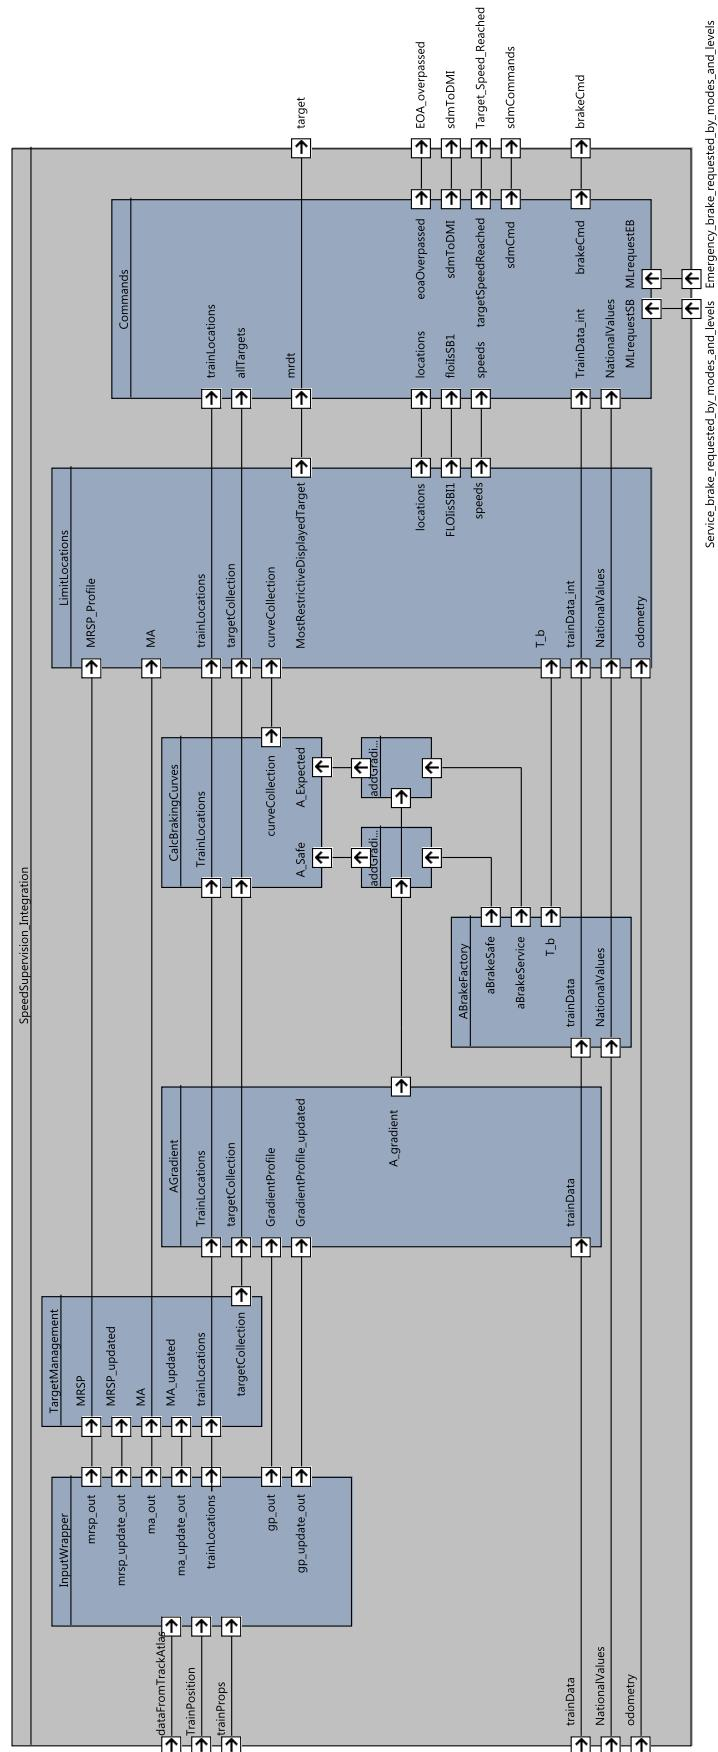

Figure 27. SpeedSupervision\_Integration component SysML diagram.
| Description            | <p>The task of SDM is to monitor the speed of the train and the train location and as such to ensure that the speed remains within the given speed and distance limits. This block is based on [1, Chapt. 3.13]. The integration node “SpeedSupervision_Integration” takes as input (1) movement related information such as train speed, train position and acceleration, (2) train related information such as brake information and train length, and (3) track related information such as speed and distance limits and national values.</p> <p>Based on this information a speed profile is calculated. Speed restrictions create target speeds (targets) that have to be followed. For each such target braking curves are generated to supervise at which location of the track the train must apply the brake. In case of no target restrictions the train may accelerate to the supervised maximum speed of the speed profile. These calculations lead to commands being sent to the driver and the brake system.</p> <p>The functionality is modeled using eight subcomponents, as shown in Figure 27, which are explained in Section 5.8.3.</p> <p>The current status of the analysis of “SDM” and a functional breakdown can be found in a separate document, SpeedSupervision_analysis.pdf.</p> |
- 556 An overview of the interface of component SpeedSupervision\_integration is shown in Figure 27.